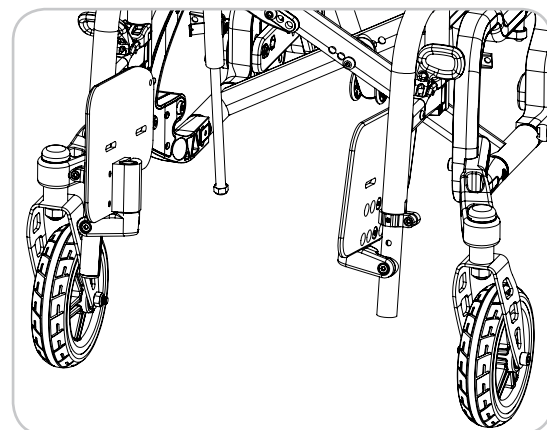

Figure 7
5. Flip up the foot plates. Reference Figure 7.